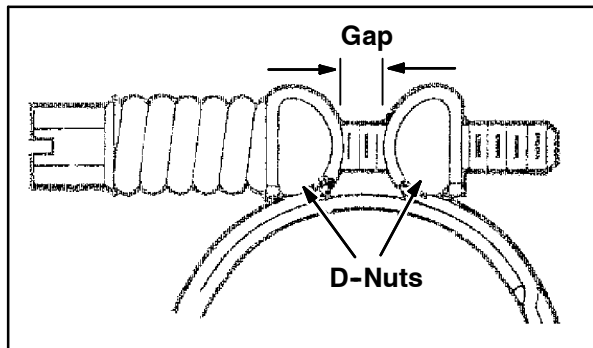

FIG. 1
1. Open the screw until it stops at the D-nut. Refer to Fig. 1.